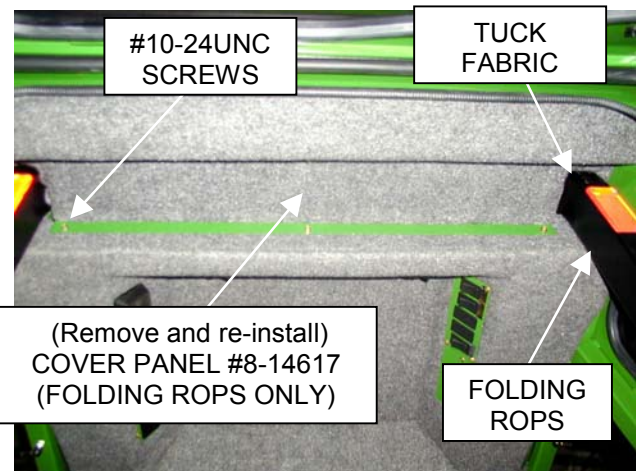

Figure 18
- 13) Note: Tractors equipped with the **taller Folding ROPS** need clearance to the roof shell area from inside the cab. Remove the ROPS cover panel 8-14617. The poly-fabric will have a factory pre-cut slot to allow the **Folding ROPS** to fit into the roof shell area when cab is lowered on to the tractor. Refer to Figure 18.
- 16) If cover panel 8-14617 was removed, re-install and secure with (6) 10-24unc screws. See Figure 18.